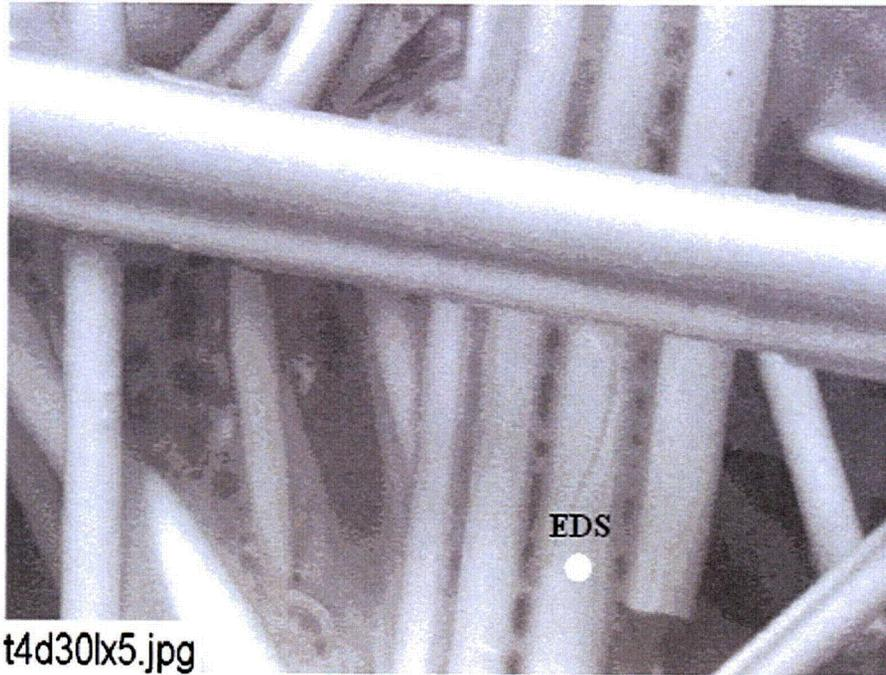
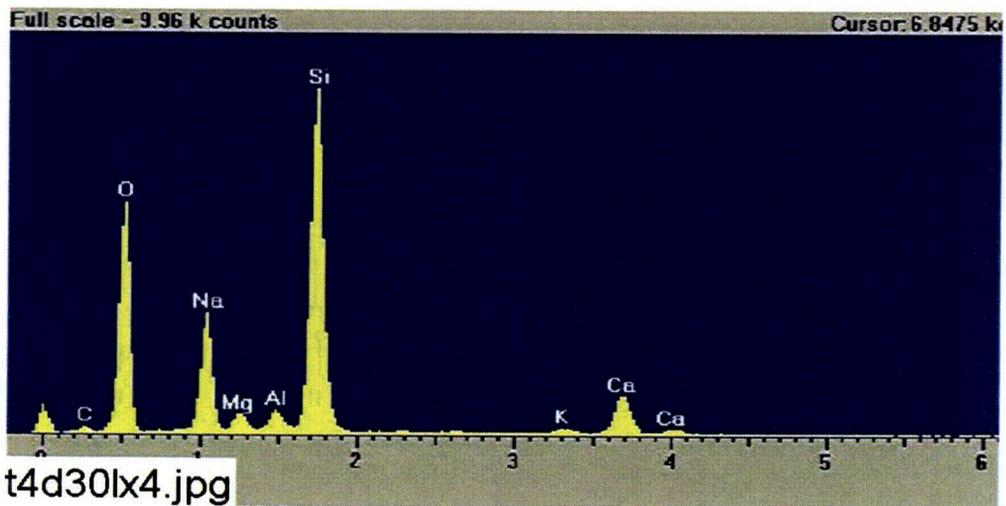

Figure C1-3. Annotated environmental SEM image magnified 1000 times for a Test #4, Day-30 exterior low-flow fiberglass sample. (t4d30lx5.jpg)
Figure C1-4. EDS counting spectrum for the spot of coating substance on fiberglass shown in Figure C1-3. (t4d30lx4.jpg)
- Figure C1-3. Annotated environmental SEM image magnified 1000 times for a Test #4, Day-30 exterior low-flow fiberglass sample. (t4d30lx5.jpg)..... C1-5
- Figure C1-4. EDS counting spectrum for the spot of coating substance on fiberglass shown in Figure C1-3. (t4d30lx4.jpg) C1-5